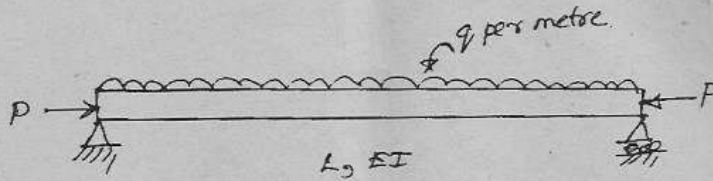

Fig.1
- (b) Determine the critical load of a column with one end fixed and the other free if it is subjected to an axial load P . The M.I. of the member varies linearly from $3I$ at the fixed end to I at the free end. (13)
12. (a) Obtain expressions for the maximum deflection and maximum moment of a beam column whose ends are simply supported and is loaded as shown in Fig.1